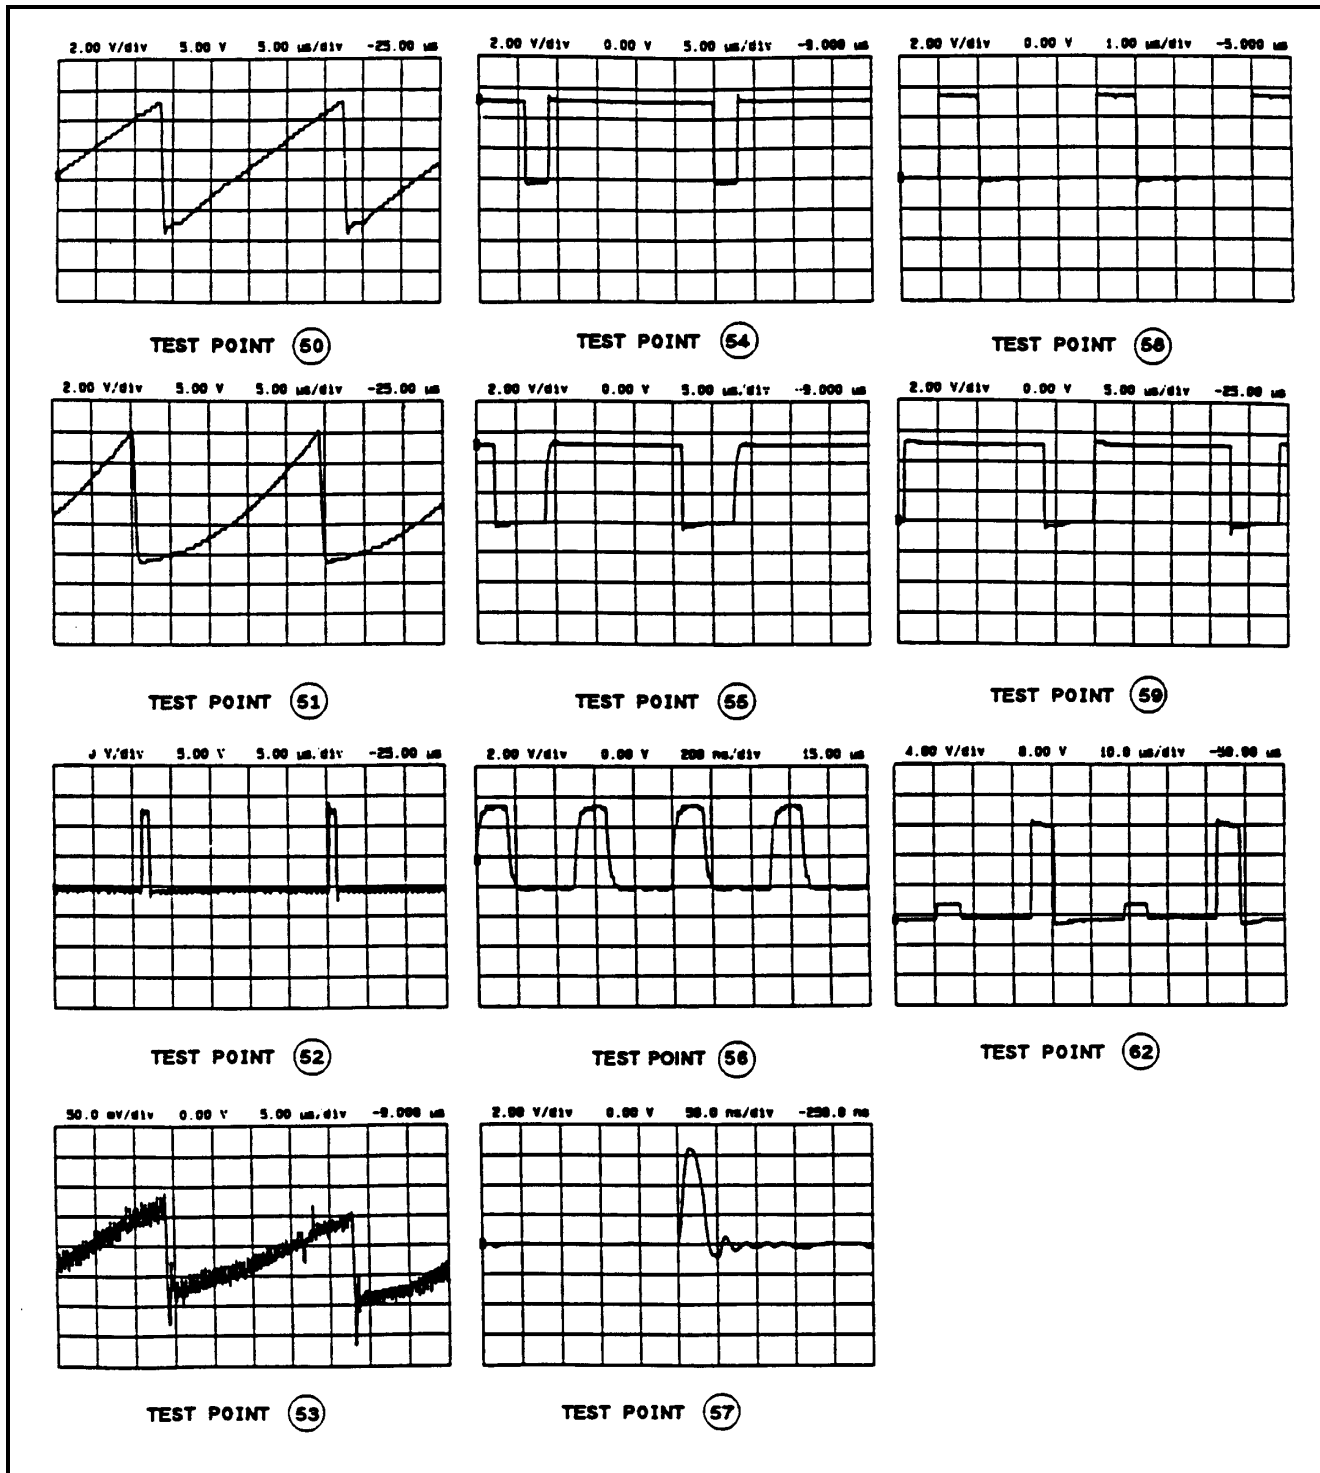

Figure 6-1. Test Point Waveforms for Table 6-3
| (50) U607-7                                                                                                                                                                                            | RAMP GEN (Sheet 3)                                                              | See Figure 6-1                                                |
| (51) U607-1                                                                                                                                                                                            | RAMP GEN (Sheet 3)                                                              | See Figure 6-1                                                |
| (52) U602-9                                                                                                                                                                                            | DIVIDER output (Sheet 3)                                                        | See Figure 6-1                                                |
| (53) U605-3                                                                                                                                                                                            | SUMMING POINT (Sheet 3)                                                         | See Figure 6-1                                                |
| (54) U602-6                                                                                                                                                                                            | DEADTIME LATCH (Sheet 3)                                                        | See Figure 6-1                                                |
| (55) U605-7                                                                                                                                                                                            | SUMMING COMPARATOR (Sheet 3)                                                    | See Figure 6-1                                                |
| 56 U600-10                    | DIVIDER CLOCK (Sheet 3)                                                                    | See Figure 6-1                                                     |
| 57 U601-6                     | DIVIDER RESET (Sheet 3)                                                                    | See Figure 6-1                                                     |
| 58 U601-3                     | ON LATCH CLOCK (Sheet 3)                                                                   | See Figure 6-1                                                     |
| 59 U604-3                     | ON LATCH (Sheet 3)                                                                         | See Figure 6-1                                                     |
| 62 J511-1,2                   | NOTE: Temporarily move both scope leads to J511 for TP 62DRV A, DRV B (Sheet 3) | See Figure 6-1                                                     |